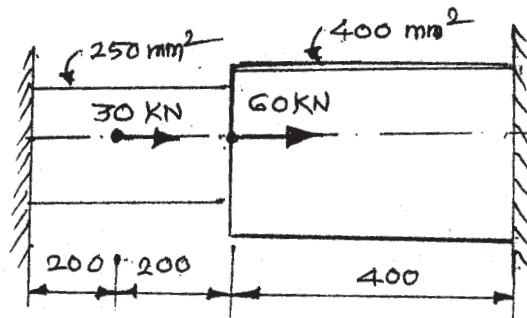

Fig 10
- b) Consider the bar shown in fig. 10. Determine the nodal displacements, element stresses and reactions, if the temperature rises by 60°C . Assume modulus of elasticity for the complete bar as 200 GPa and coefficient of thermal expansion as $12 \times 10^{-6}/^{\circ}\text{C}$. [12]